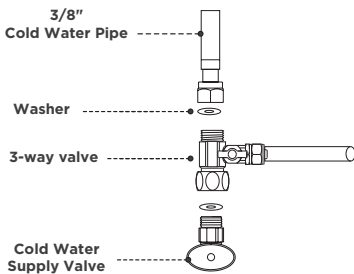

Figure 4
4. Twist the feed water adapter onto the cold water supply valve (with its washer) and tighten it with an adjustable wrench (Fig.3). NOTE: If the cold water pipe is not 1/2", screw the two converters from the feed water adapter (Fig.4), and then implement step 3.